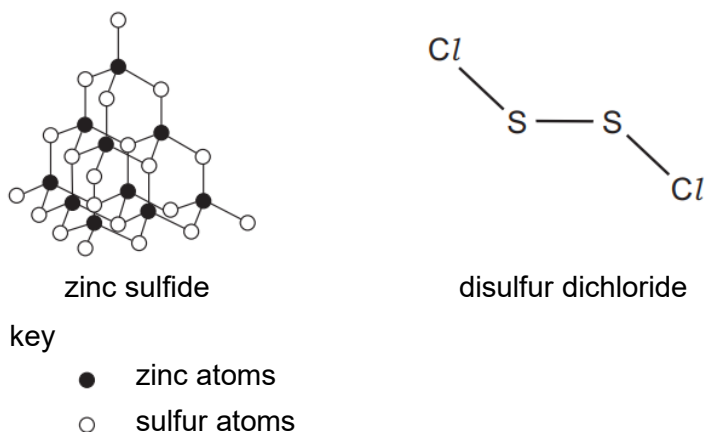

Fig. 6.1
- 6 Fig. 6.1 shows the structures of zinc sulfide and disulfur dichloride.
- (a) With reference to Fig. 6.1, explain why zinc sulfide exists as a solid while disulfur dichloride exists as a liquid at room temperature and pressure.